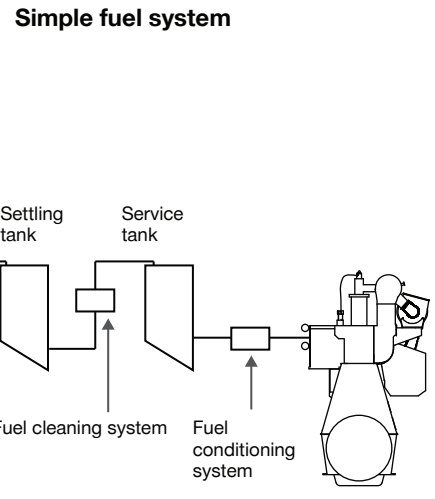

Figure 2: Schematic of a simple fuel system
2. Simple fuel system with shared fuel lines (Fig. 2). Attention has to be paid to the fuel handling when changing fuels, because of the risk of mixing fuels in the tanks. The settling and service tanks should be emptied as much as possible before new fuel is added.